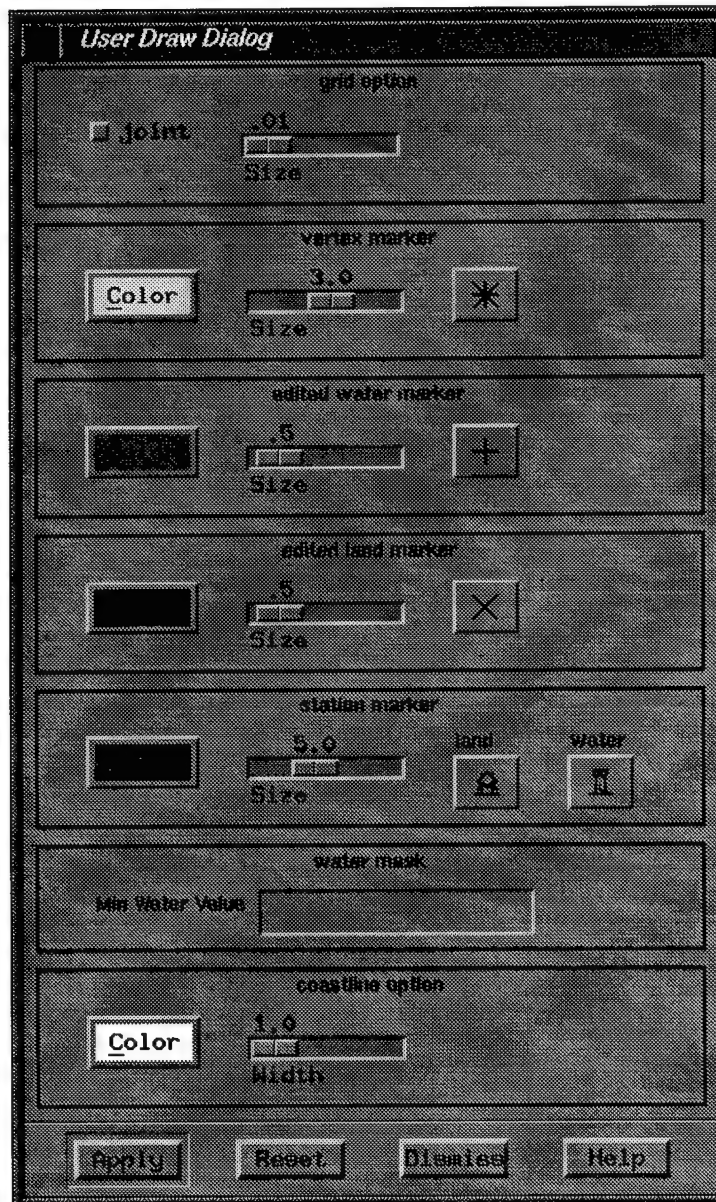

Figure 15 – The User Draw Dialog window
- User Draw Options -** This pops up a 'User Draw Dialog' window (Figure 15) which gives the choice of changing markers, and coastline line size and color. It also provides the user with a minimum water value for the water mask used during masking, a feature used to facilitate bathymetry editing.